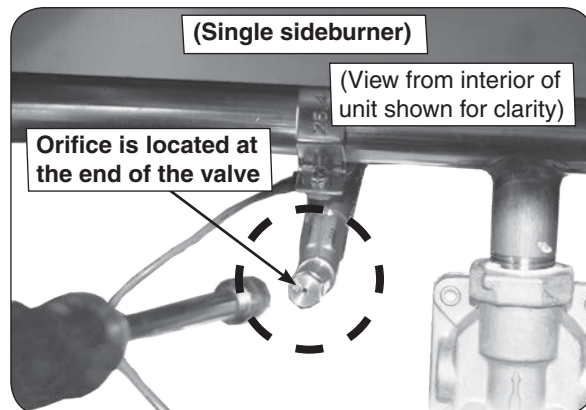
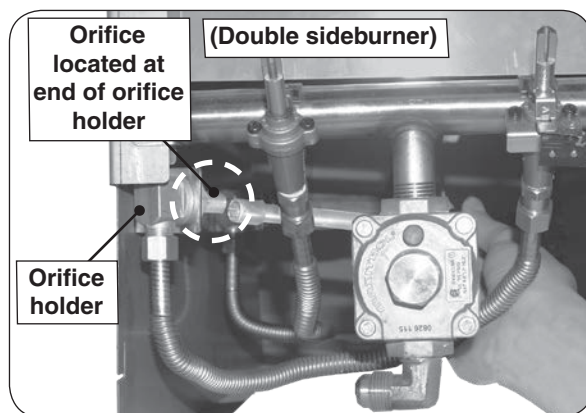

Fig. 34-1 Single sideburner orifice location
Fig. 34-2 Double sideburner orifice locations
4. Using a $\frac{3}{8}$ " socket nut driver, remove the orifice from the orifice holder (see Fig. 34-1 and Fig. 34-2) and check the number stamped on the orifice face.